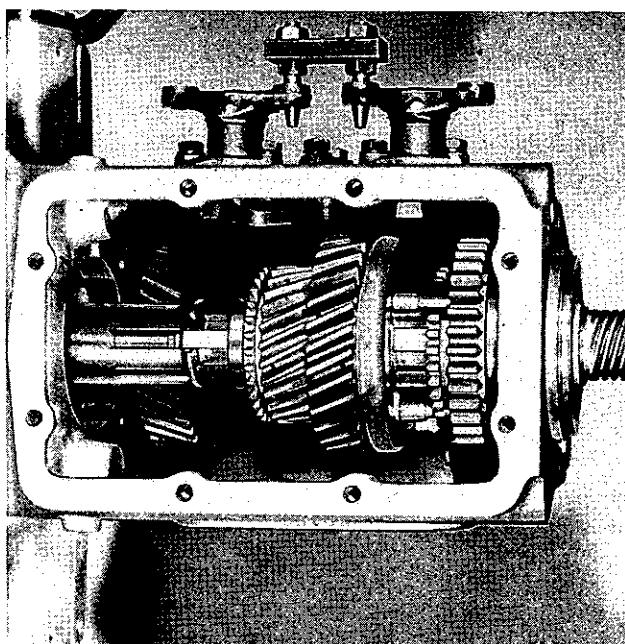

Fig. 10. Extracting mainshaft circlip with Churchill Tool No. 20SM-69
13. Remove mainshaft circlip with the special extractor shown in Fig. 10. The extraction of this circlip is made somewhat difficult by the adjacent thrust washer, which has three lugs, equally spaced, and engaging alternate splines on the mainshaft. Quite apart from the necessity to engage the three available splines with the full length prongs, in some cases it may be necessary to tap the circlip round on these prongs, to free it from its recess, before it can be withdrawn. A new circlip should always be used when reassembling.